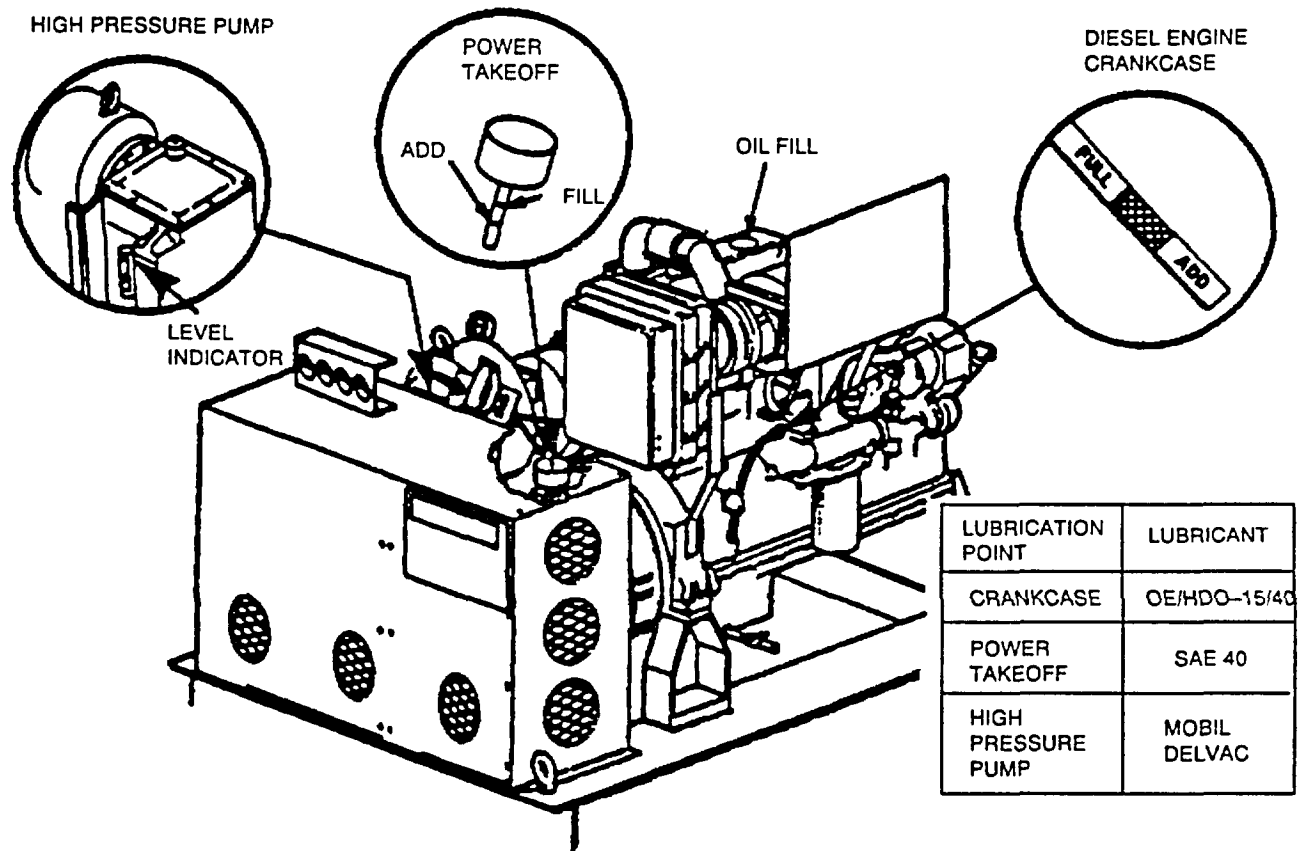

Figure 13-13. High Pressure Diesel Pump Lubrication
- (3) Check for physical damage and broken welds, especially to pressure gauges, flowmeters, indicators and control panels. Notify shift leader of any damage affecting normal operations.
- (4) Check for loose or missing securements and fasteners. Tighten or replace as necessary.
- (5) Check wiring for loose connections and frayed cables. Tighten or replace as necessary.
- (6) Make sure chemical metering pump hoses are properly connected to pumps and drums. Check tubing and connections for leaks and cracks.
- (7) Make sure coagulant and inhibitor drums contain at least 2 to 3 gallons of liquid. If not, replace drums according to paragraph 4-14.1.3 in TM 55-1930-209-14&P-3.
- (8) Make sure membrane cleaning agent (Hydrakleen-20) drums are full. If not, replace drums according to paragraph 4-14.4.3 in TM 55-1930-209-14&P-3.
- (9) Make sure media filters are ready for normal operations. If necessary, backwash and flush filters according to paragraph 4-14.2 in TM 55-1930-209-14& P-3.
- (10) Make sure RO pressure tube block membranes are ready for normal operations. If necessary, clean and flush membranes according to paragraph 4-14.4 in TM 55-1930-209-14& P-3.
- (11) Make sure cartridge filter is ready for normal operations. If necessary, change cartridge cage assembly according to paragraph 4-14.1.1 in TM 55-1930-209-14 & P-3.
- (12) Check diesel-driven HP pump as follows:
- (a) Check engine crankcase oil level (Figure 13-13). If necessary, add oil (OE/HDO-15/40) until oil level is between FULL and ADD on dipstick.
- (b) Check pump lubricant level in sight glass (Figure 13-13). If necessary, unscrew oil breather and add Mobil Delvac, or equivalent, oil until oil level is between MAX and MIN marks on oil level gauge.
- (c) Check power takeoff oil level (Figure 13-13). If necessary, add oil.